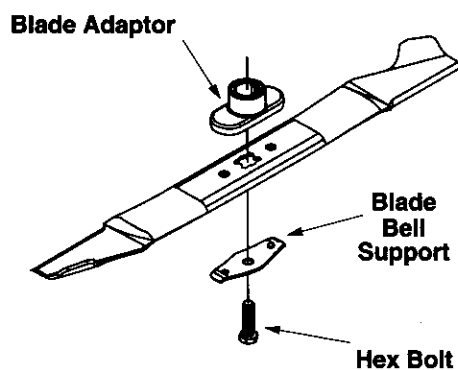

Figure 14
1. Install the blade adapter on the crankshaft with the "star" away from the engine. See Figure 14.